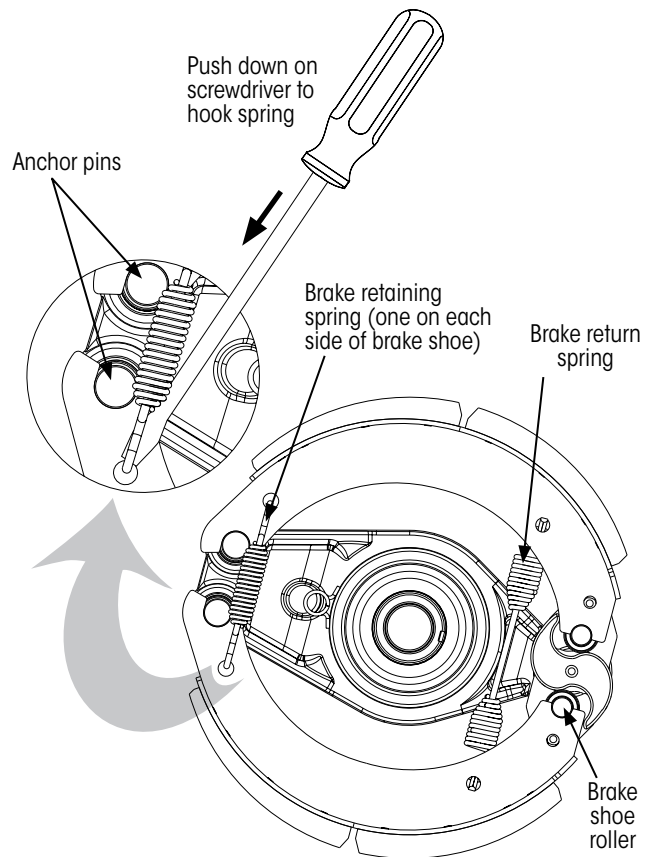
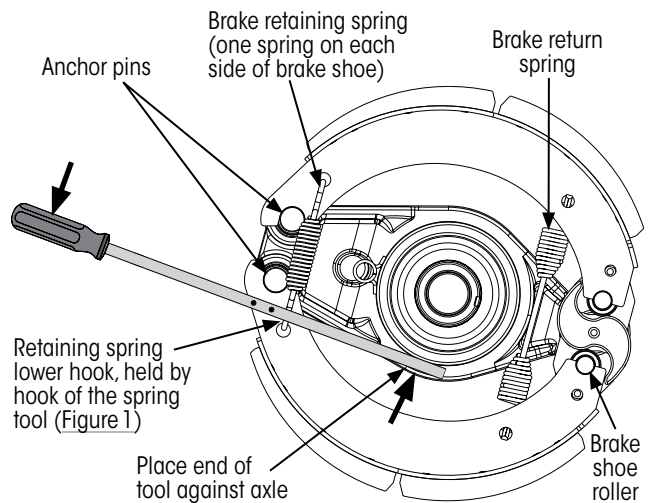

Figure 43: Installing brake retaining spring using Tool A
Figure 44: Installing brake retaining spring using Tool B
13. While **manually supporting** the lower brake shoe, use Tool A (Figure 43) or Tool B (Figure 44) to hook both brake retaining springs onto the anchor end of the brake shoes.